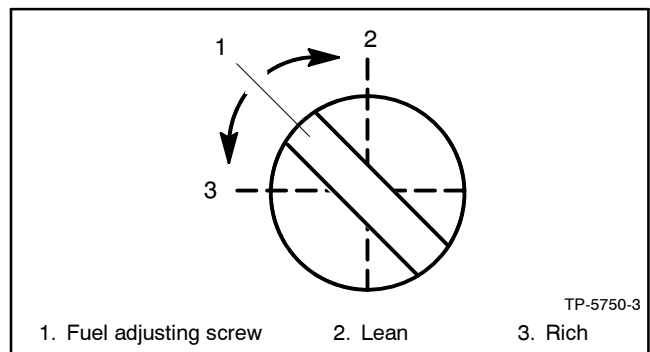

Figure 7-26 Fuel Mixer Adjustment, Typical
- a. Adjust the fuel metering valve (Figure 7-26) as required to obtain a 0.8–0.9 VDC oxygen sensor output. The oxygen sensor output reads high when the mixture is richer and close to zero volts when the mixture is leaner.